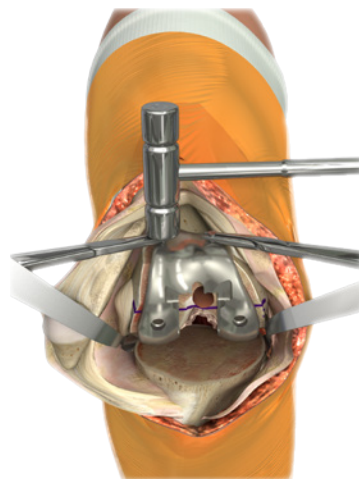

Figure 20
3. Secure the Femoral Trial to the bone using two short headed pins in the anterior flange (Figure 20).